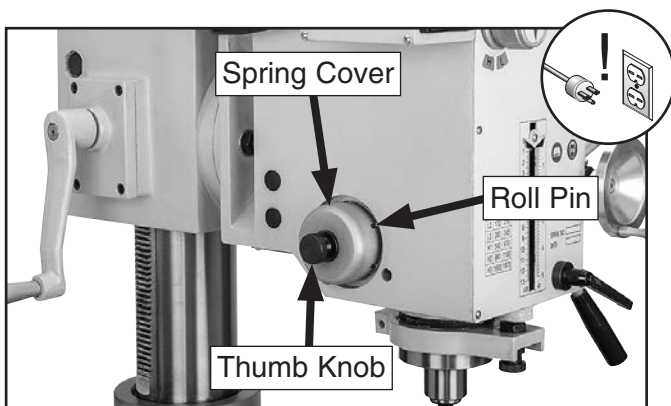

Figure 44. Spring tension components.
3. Loosen thumb knob shown in **Figure 44** 2–3 turns (DO NOT completely remove thumb knob).